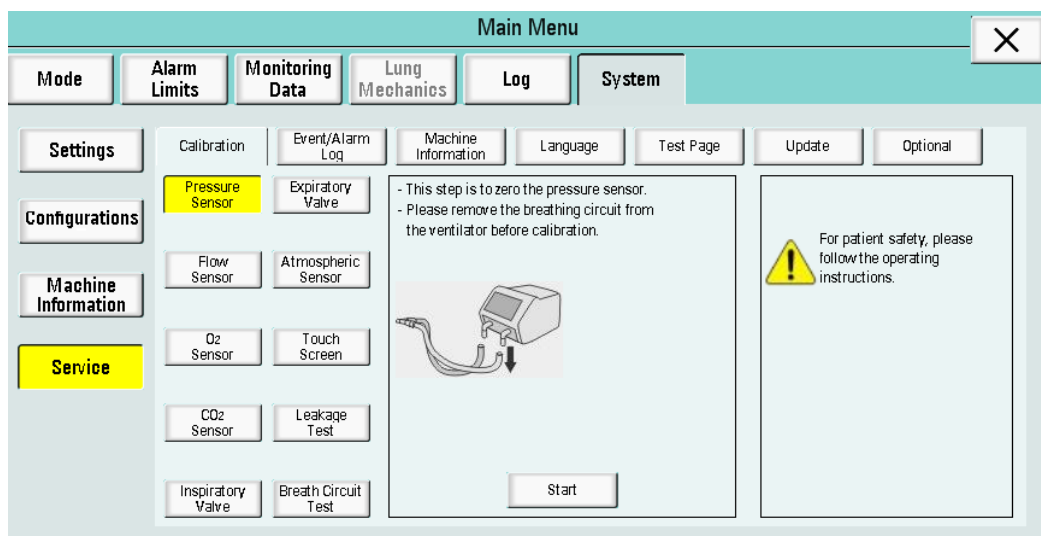

Figure 6-61
The calibration choices include: Pressure Sensor Calibration, Flow Sensor Calibration, O₂ Sensor Calibration, CO₂ Sensor Calibration, Inspiratory valve Calibration, Expiratory Valve Calibration, Atmospheric Sensor Calibration, Touch Screen Calibration, Leak Test and Breath Circuit test, as shown in Figure 6-61.
(1) Pressure Sensor Calibration: Click “Pressure Sensor” to enter the calibration interface. A message is displayed: “This step is to zero the pressure sensor. Please remove the breathing circuit from the ventilator before calibration.” A legend is displayed as well, as shown in Figure 6-61.